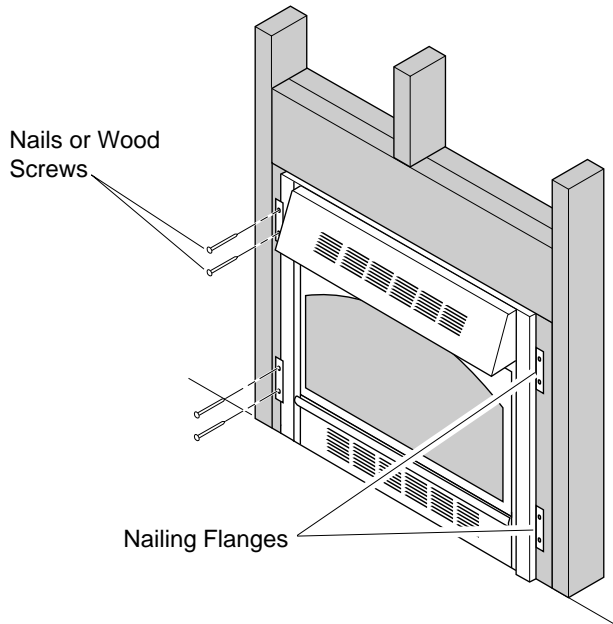

Figure 14 - Attaching Fireplace to Wall Studs
6. Attach fireplace to wall studs using nails or wood screws through holes in nailing flange (see Figure 14).